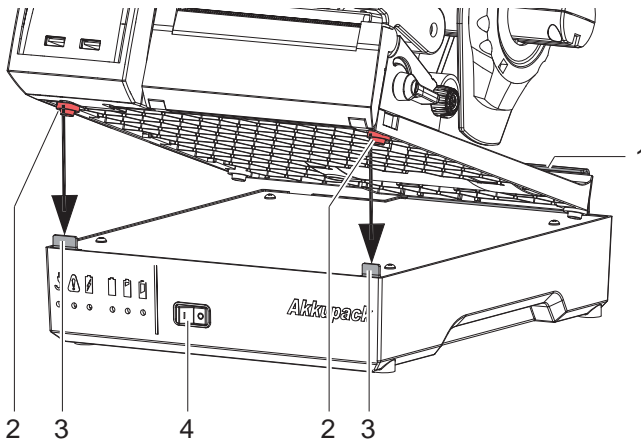
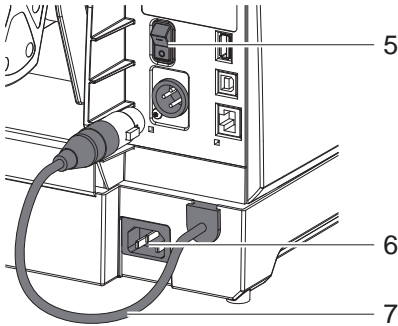

Fig. 1 Mounting
Fig. 2 Connecting
- ▶ Switch on the power switches at battery pack (4, Fig. 1) and printer (5, Fig. 2).
- ▶ Plug the power cable into the power connection socket (7, Fig. 2).